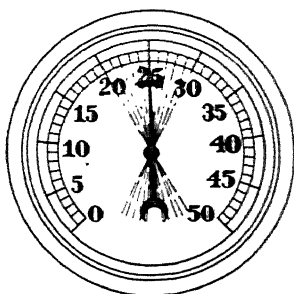

Fig. 29. Needle Motion Increases with Engine Speed—Valve Springs Weak
**Weak Valve Springs.** At idling speed, valves will seat properly and vacuum needle will remain steady between 25 and 30. When speeding up the engine the vacuum needle, Fig. 29, vibrates excessively, indicating weak valve springs.